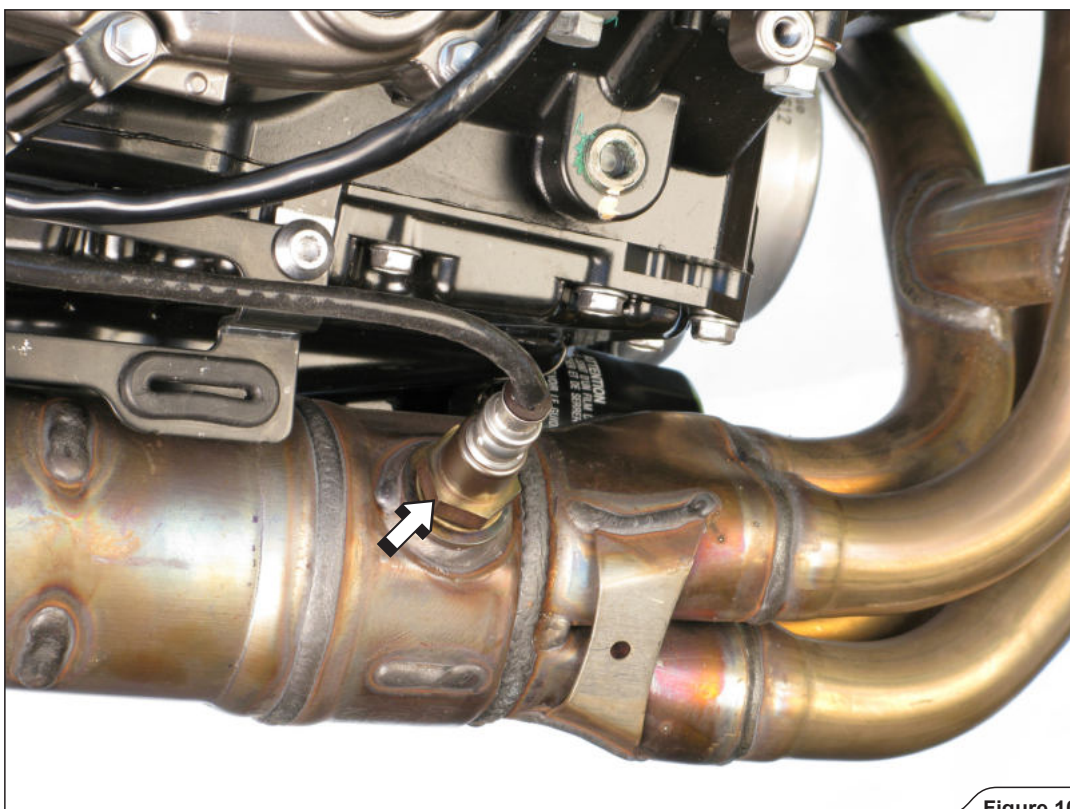

Figure 10
9. Unscrew the lambda sensor (**Figure 10**).